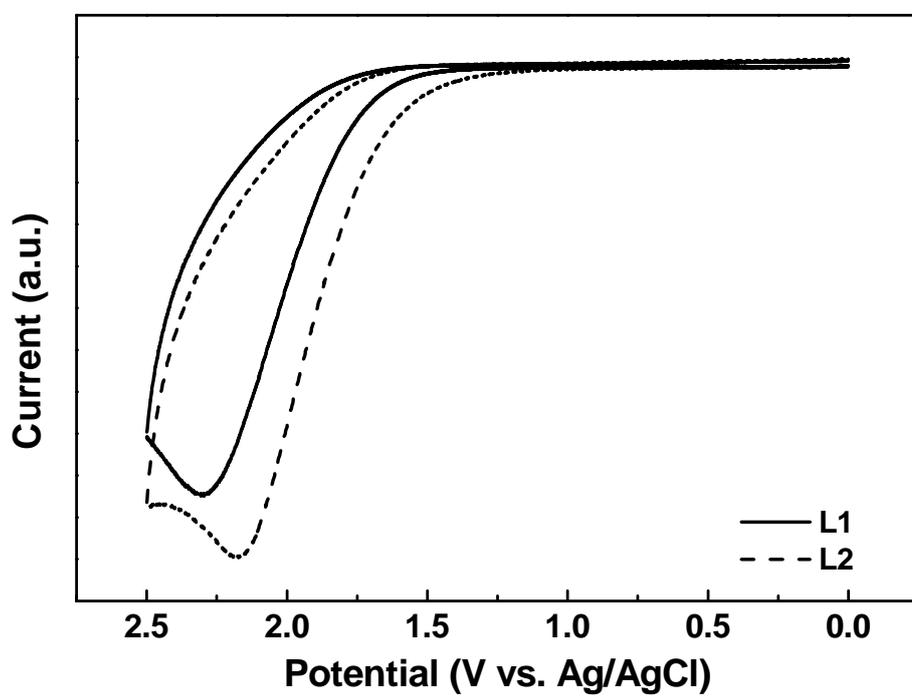

Fig. S2 Cyclic voltammograms of **L1** and **L2** BCP.
The electrochemical properties of **L1** and **L2** were investigated by cyclic voltammetry (CV), as shown in Fig. S2. The p-doping behaviors of **L1** and **L2** films on an ITO-coated glass substrate in supporting electrolyte solution were used to determine HOMO, and LUMO was calculated by the difference between HOMO and optical band gap. The corresponding HOMO energy levels of **L1** and **L2** are -6.00 and -5.92 eV, respectively, while the LUMO levels are -1.51 and -1.41 eV, respectively.